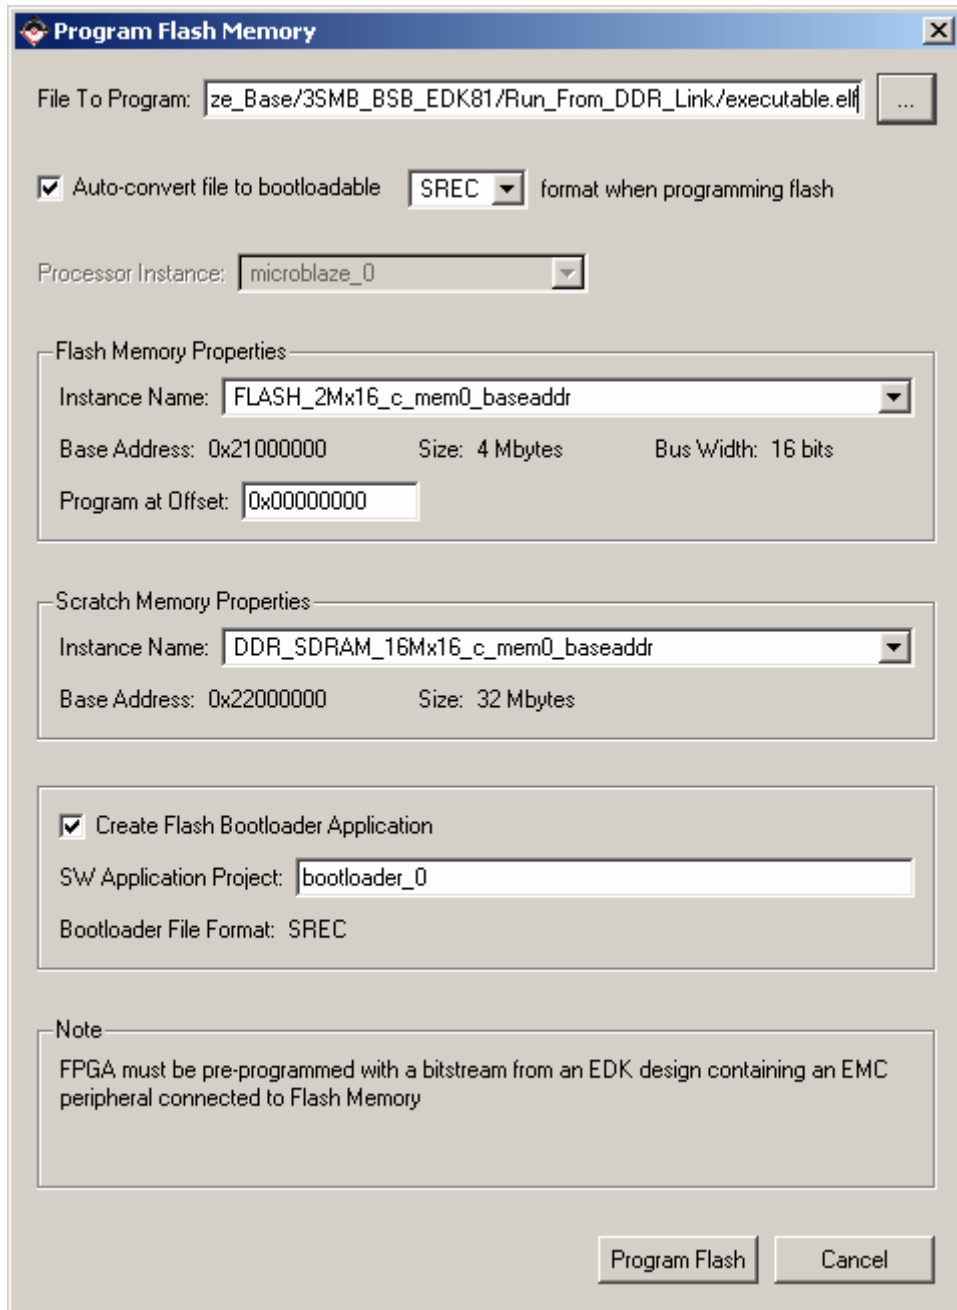

Figure 14 – Program Flash Memory
2. Set the parameters as follows (see Figure 14):